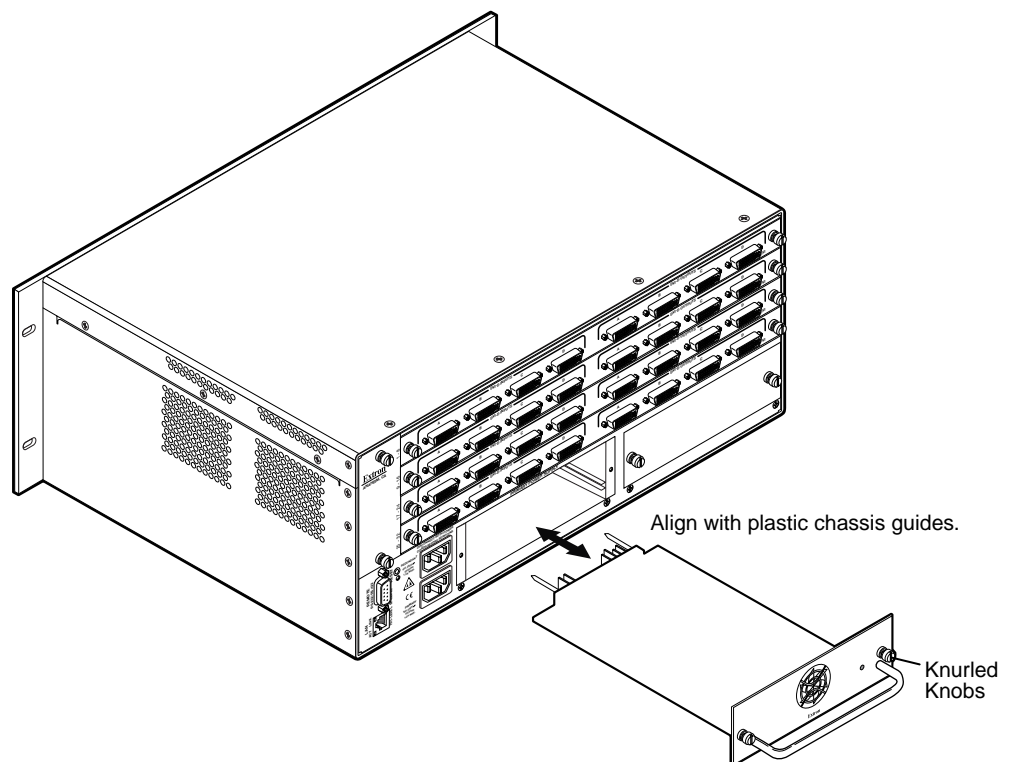

Figure 69. Power Supply Replacement
2. Gently pull on the handle to loosen the power supply from the backplane (see figure 69).
2. Align the flanges on the power supply module with the left and right plastic chassis guides (see figure 69, on the previous page).